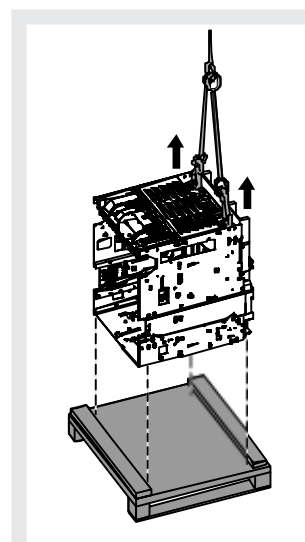

Figure 22
- Raise the fixed part from the base of the packaging with the aid of the two hooks supplied with the fixed part. See Figure 22.